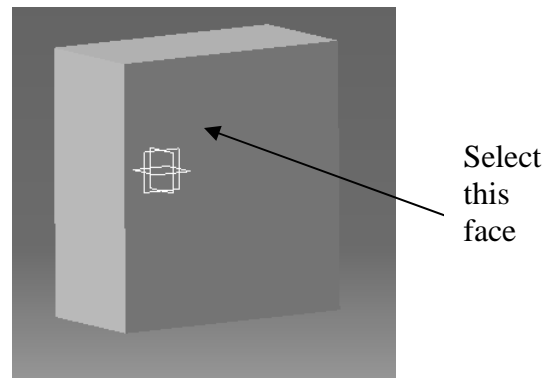

Figure 3.4
- 3.7 Select the front surface of the box as shown in figure 3.4 and enter the Sketcher Work Bench. Selecting the surface is the same as selecting a plane; the selection is where the sketch will be created.